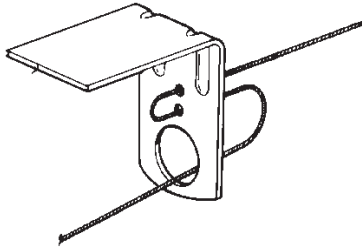
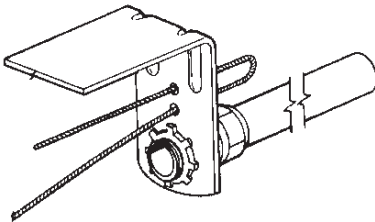
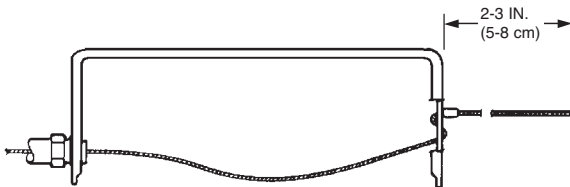

FIGURE 18
FIGURE 19
FIGURE 20
5. Feed the wire rope through the terminal detector bracket as shown in Figure 18 or as shown in Figure 19 if the terminal detector is mounted within a duct or header opening, and install the stop sleeve approximately 2 to 3 in. (5 to 8 cm) from the end of the wire rope. See Figure 20. Use the National Telephone Supply Company Nicopress Sleeve Tool (Stock No. 51-C-887) or equal to properly crimp the stop sleeve.